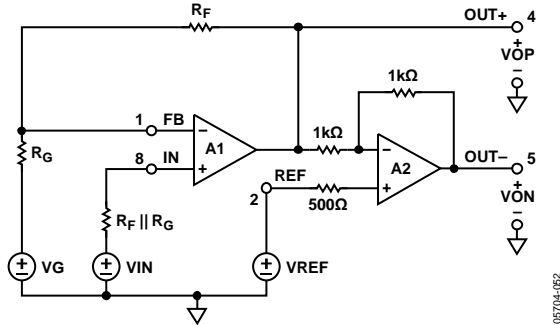

Figure 47. Basic Connections (Power Supplies Not Shown)
The ADA4941-1 is a low power, single-ended input, differential output amplifier optimized for driving high resolution ADCs. Figure 47 illustrates how the ADA4941-1 is typically connected. The amplifier is composed of an uncommitted amplifier, A1, driving a precision inverter, A2. The negative input of A1 is brought out to Pin 1 (FB), allowing for user-programmable gain. The inverting op amp, A2, provides accurate inversion of the output of A1, VOP, producing the output signal VON.
In Figure 47, RG and RF form the external gain-setting network. VG and VREF are externally applied voltages. VO, cm is defined as the output common-mode voltage and VO, dm is defined as the differential-mode output voltage. The following equations can be derived from Figure 47: